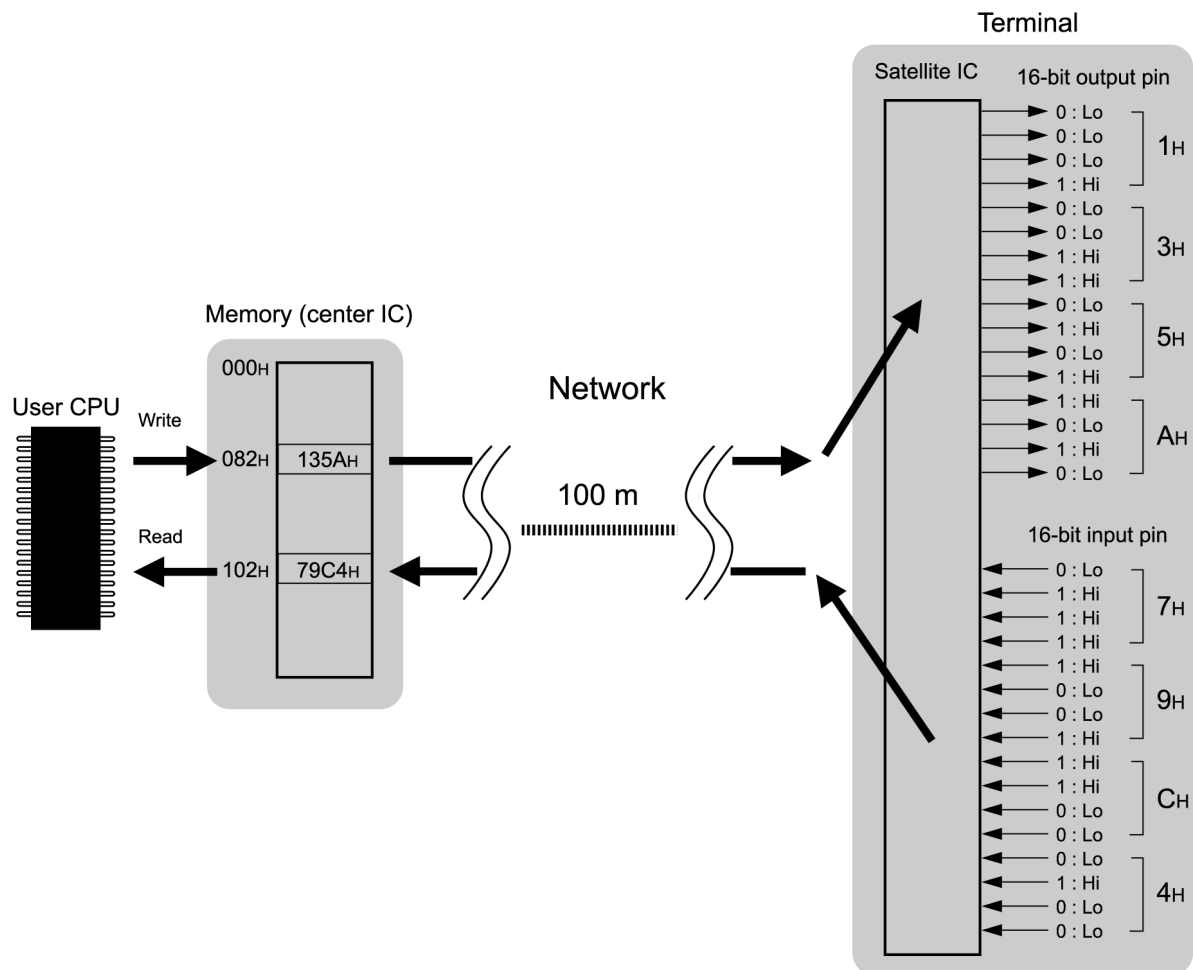

Fig. 4.1 Center IC Retaining Same Data
- For example, writing 135AH to memory address 082H, the output pins of the remote terminal 100 m away reflect 135AH (Fig. 4.1), retaining the same data.
- For example, reading memory at address 102H when the state of input pins of the remote terminal 100 m away read 79C4H, the center IC memory can also read 79C4H, what is the same state as the input pins of the remote terminal (Fig. 4.1).